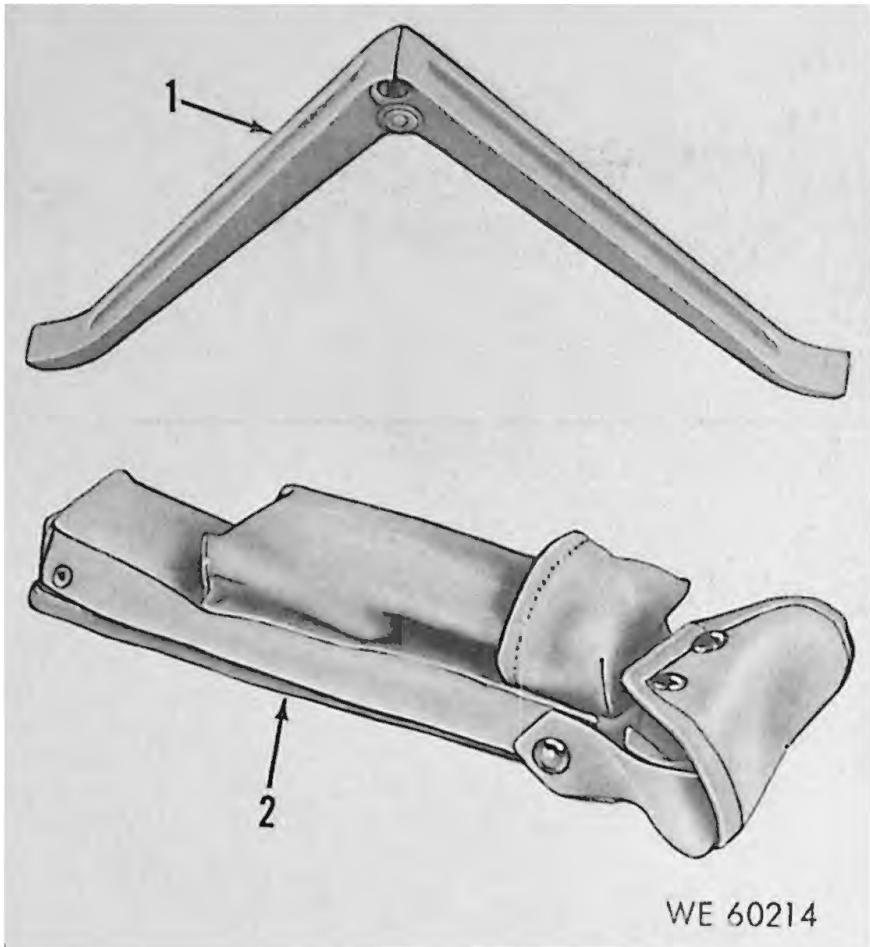
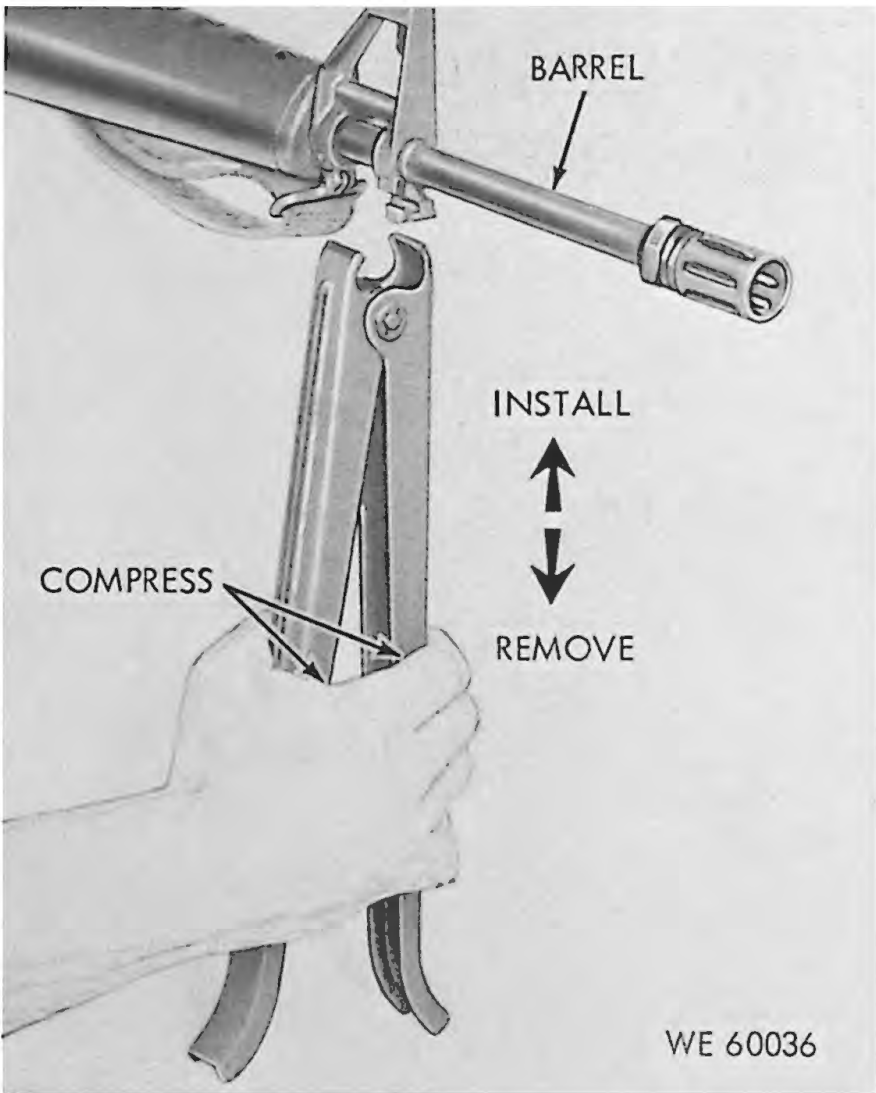

Figure 1-3. Rifle Bipod, M3 and Case.
Figure 1-4. Remove/install rifle bipod.
b. *Rifle Bipod, M3.* The Rifle Bipod M3 (fig 1-3) is a lightweight non-adjusting mount, which clamps on the front portion of the barrel (fig 1-4).